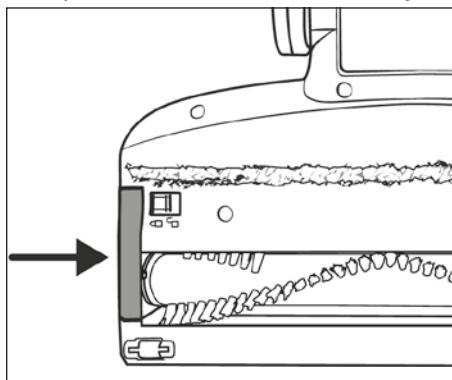

Fig. 27
- 5) Insert the rotary brush ②1 into the floor brush ②2. Turn the rotary brush ②1 slightly to make it easier to insert.
- 6) Put the rotary brush holder 20 back into the floor brush 22. Push it down until it audibly clicks into the floor brush 22 (see Fig. 27).